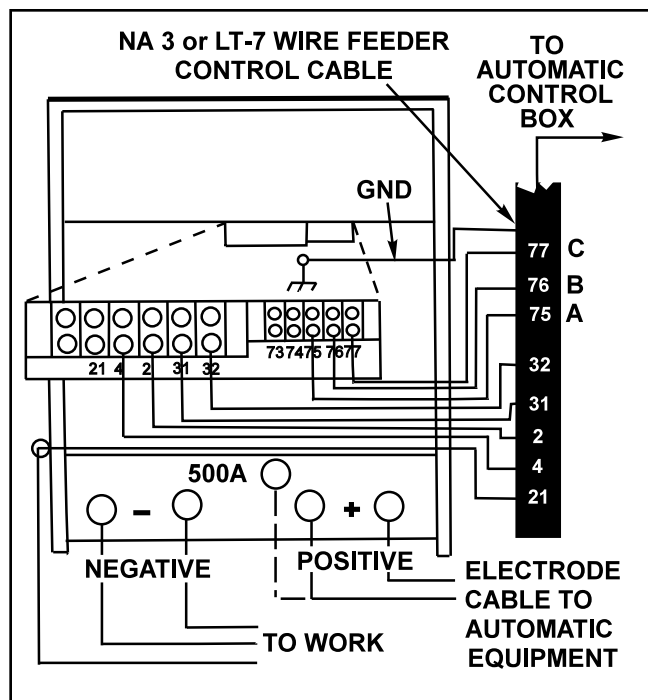

FIGURE C.1 - NA-3 or LT-7 Wire Feeder Connection to the IDEALARC DC-1000
3. Connect the wire feeder control cable leads to the IDEALARC DC-1000 terminal strip as shown in Figure C.1.
6. Connect the welding cables as shown in Figure C.1.
NOTE: The connection diagram shown in Figure C.1 shows the electrode connected for positive polarity. To change polarity: